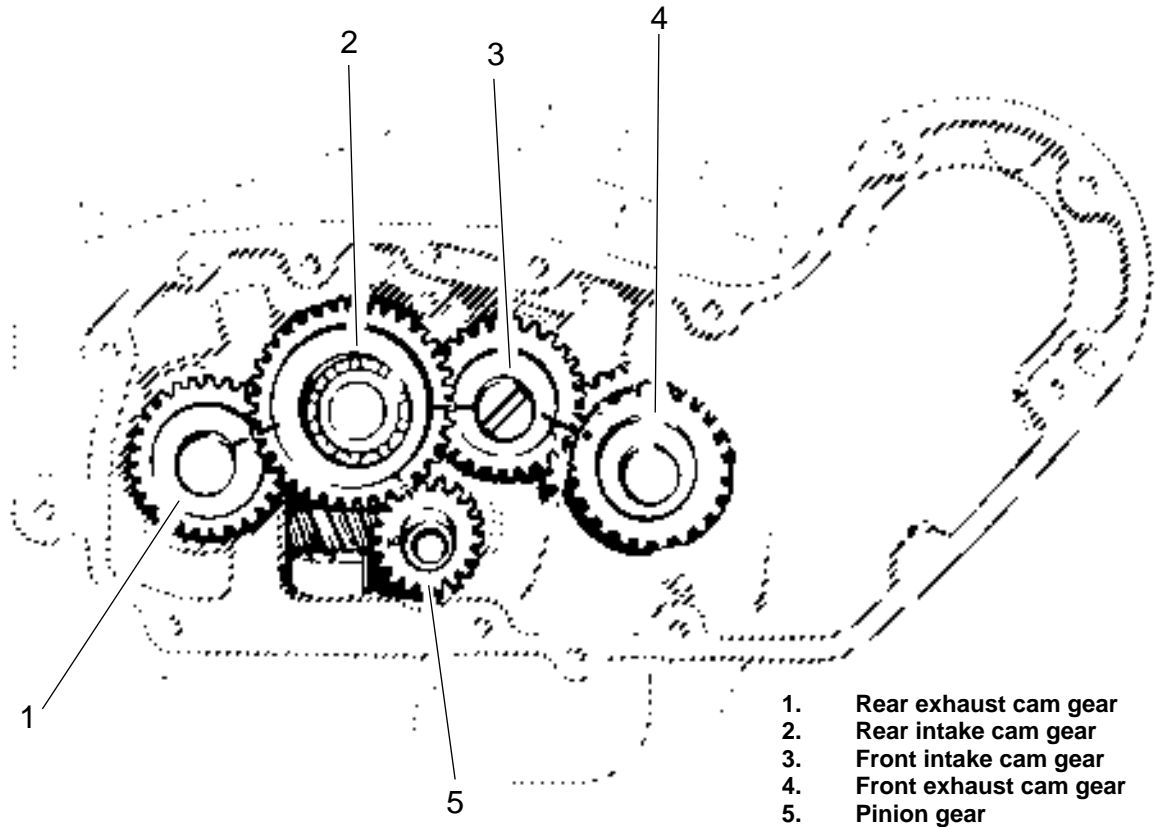

Figure 2. Proper Alignment of Camshaft Timing Marks
- See Figure 2. Rotate engine to align timing marks. Cams are numbered 1 to 4 from the rear exhaust (1) to the front exhaust (4). Remove camshaft 2. One at a time remove camshaft 1, 3, and 4, and replace with the appropriate camshaft from this kit. Be careful to maintain timing mark alignment. Install camshaft 2 from this kit last. Carefully check alignment of all timing marks.